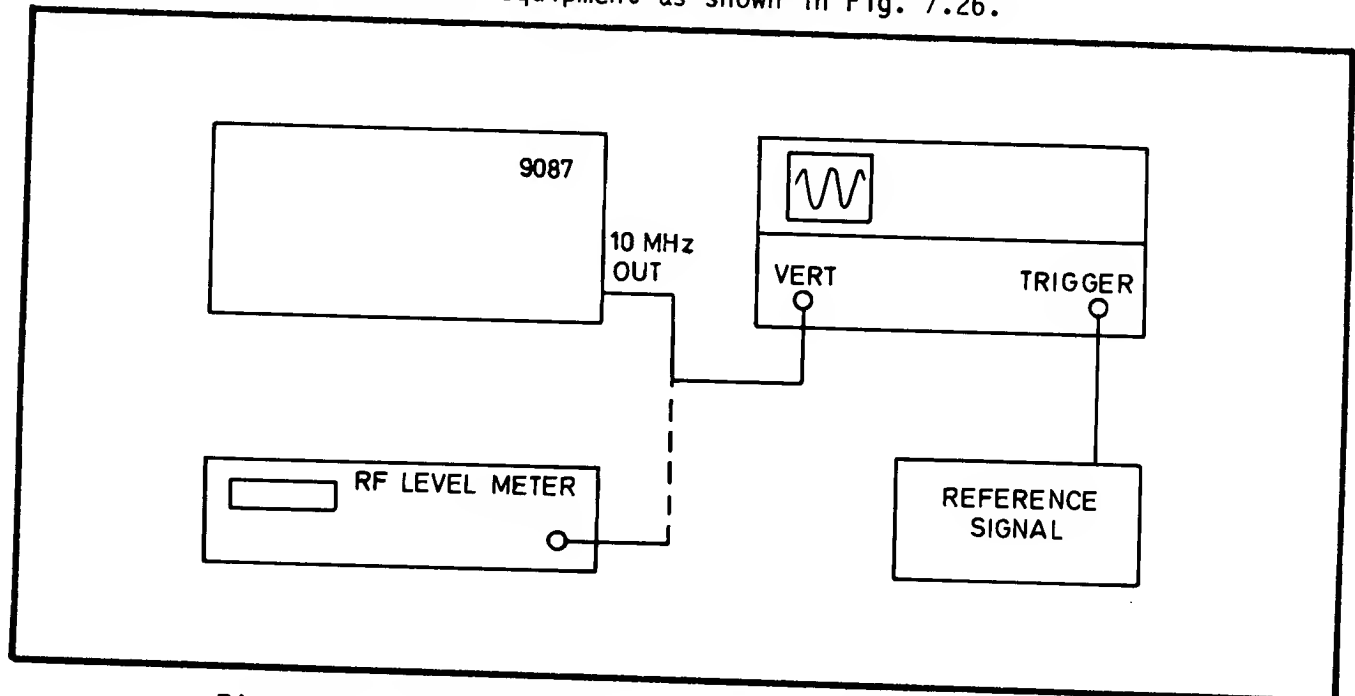

Fig. 7.26 Connections for Internal Frequency Standard PVP
7.9.2.9.2 Connect the test equipment as shown in Fig. 7.26.